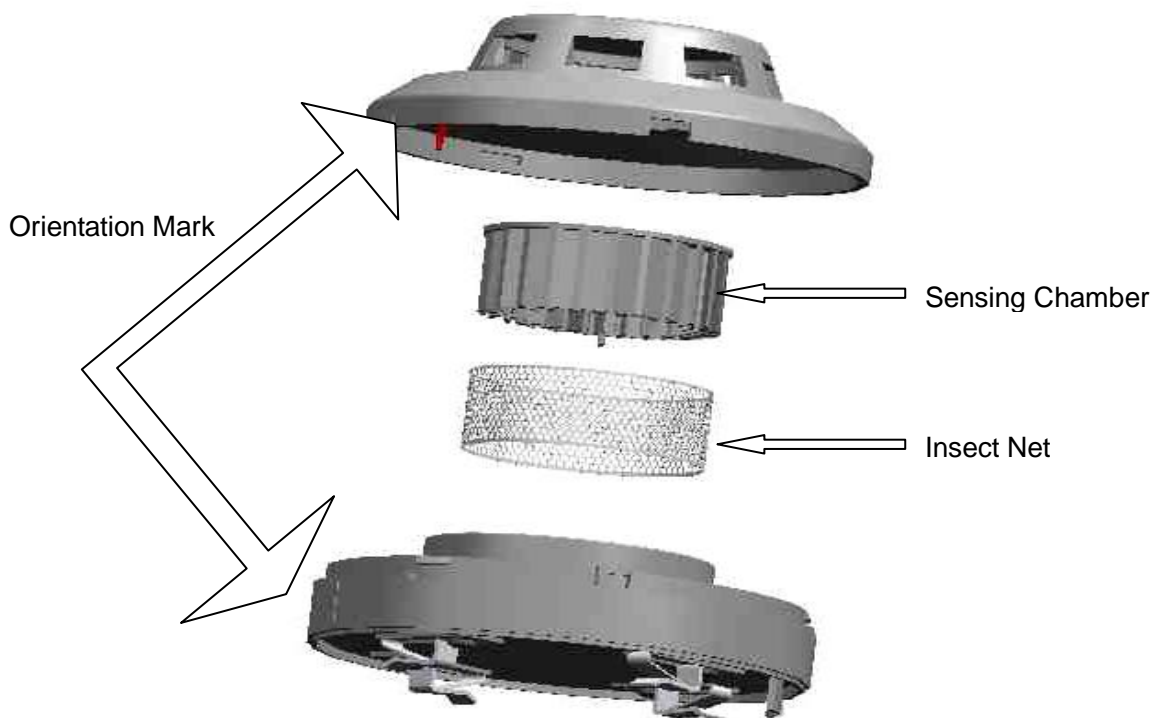

Fig. 7 Cleaning
3. Remove the detector to be cleaned. Take down the top cover by prizing along the three recesses with a minus screwdriver and clean the dust on the insect net by a vacuum pump or cleaner; if there is too much dust or it cannot be totally cleaned, you can take down the sensing chamber and pull out the insect net along axle, clean or replace the insect net, then remove the dust on the sensing chamber by vacuum pump or cleaner, and re-install the insect net and sensing chamber (note to install them to the end). Align the orientation marks on the two parts of enclosure and re-install the top cover. See Fig. 7.